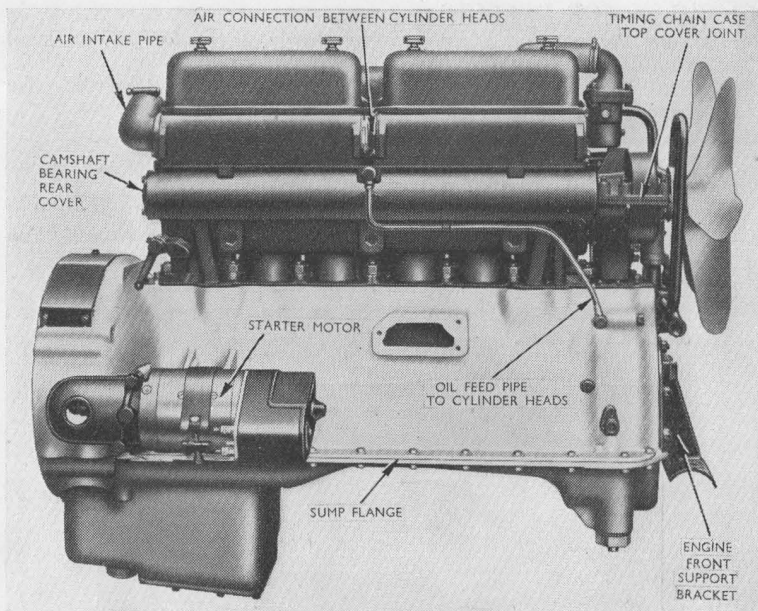

Fig. 14. Offside View of Engine.
(iii) AIR INTAKE PIPE JOINTS (Fig. 14).
(ii) The six nuts which hold the front support bracket to the crankcase should also be inspected ; these are split pinned (see Fig. 14).
- (b) Sump flange (Fig. 14).
- (d) Engine front support bracket (Fig. 14) (inspection only).
- (h) Timing chain case top cover (Fig. 14).
- (m) Camshaft rear bearing cover at rear of cylinder block (Fig. 14).
- (a) Oil feed pipe to cylinder heads. **Banjo pin at each end of pipe.** (Fig. 14.)